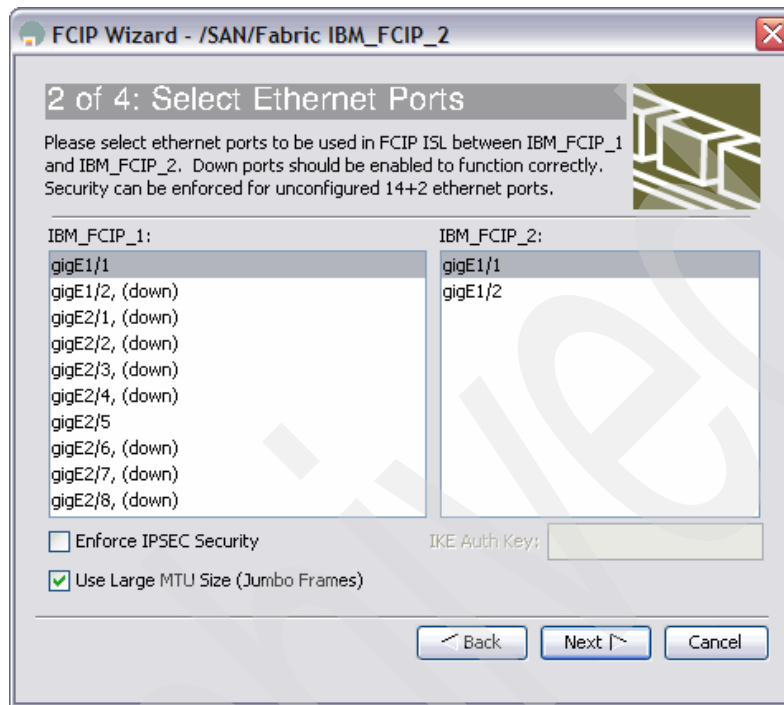

Figure 12-14 FM FCIP Wizard panel 2 of 4
- c. In the next panel, shown in Figure 12-14 on page 345, we configure which Gigabit Ethernet interfaces will make up the link. Highlight the correct interface from each switch and click **Next**. In this example, we connect interface gigE1/1 on IBM\_FCIP\_2 to the interface gigE1/1 on IBM\_FCIP\_1.
- d. Select the ports to connect your FCIP Tunnel, as shown in Figure 12-14, and click **Next**.